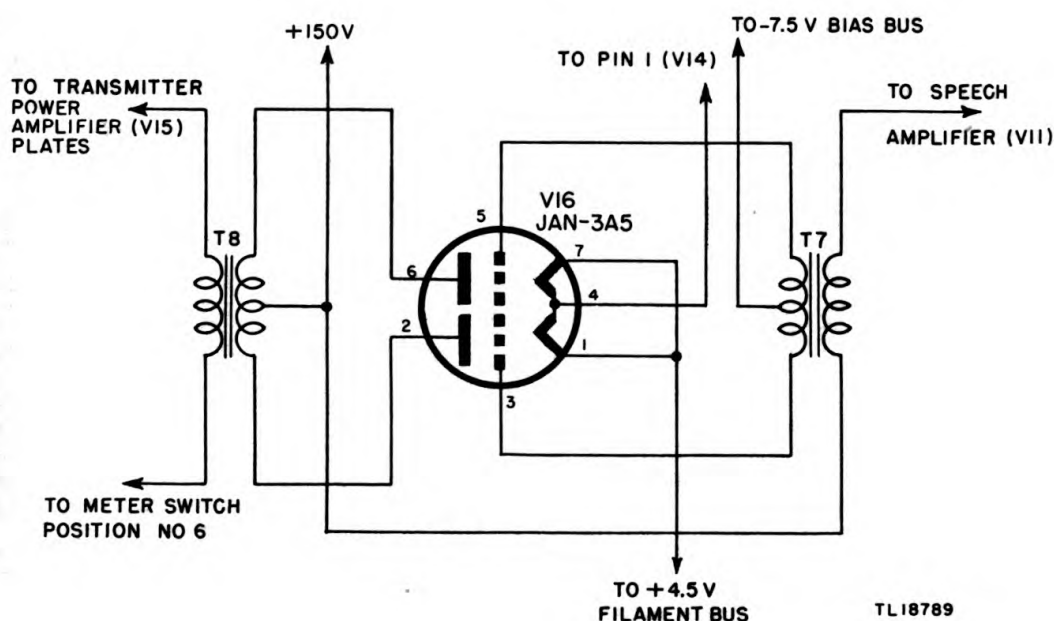

Figure 65. Transmitter modulator.
a. The modulator stage uses Tube JAN-3A5, V16, a twin triode, in a push-pull circuit operating Class B (fig. 65). A fixed bias of -7.5 volts is applied to the grids through a connection to the center point of the secondary of coupling transformer T7. An additional 3 volts is obtained from the voltage drop across the filaments of tubes V14 and V15. The input signal to the grids of tube V16 is the voltage induced in the secondary of transformer T7 by the audio signal, developed in the plate circuit of the speech amplifier, flowing through the primary. Since the center point of the secondary is grounded through the bias supply, the 180° out-of-phase relationship of the two grids, necessary for push-pull operation, is obtained.